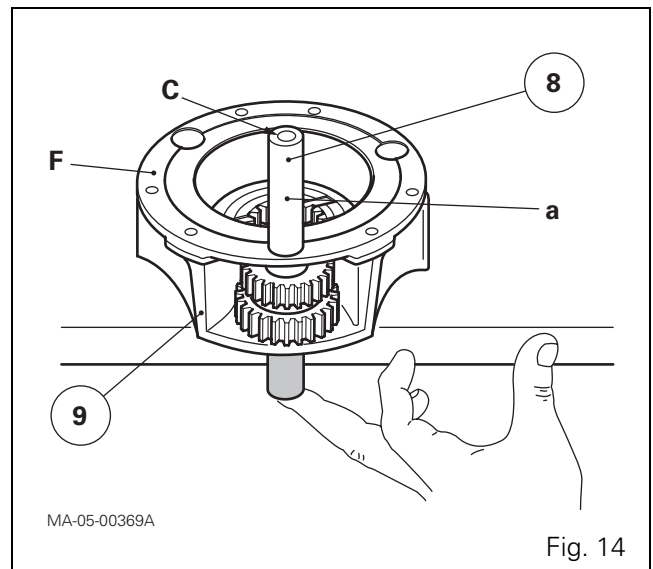
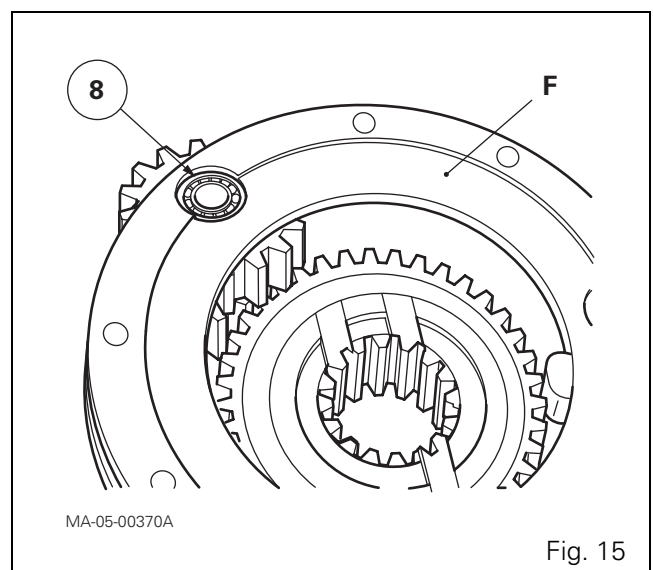

Fig. 14
Fig. 15
35. Position washers (17).
36. Centre the pinion gears and washers with a guide pin Ø 16 mm, L = 80 mm (Fig. 14).
37. Insert the pin (8) into the free bore on side "F" of the unit (9) (Fig. 14). Fit it partially retracted (Fig. 15), with the radial lubricating port "a" turned outwards and the end of central channel "C" turned towards side "F" (Fig. 14).